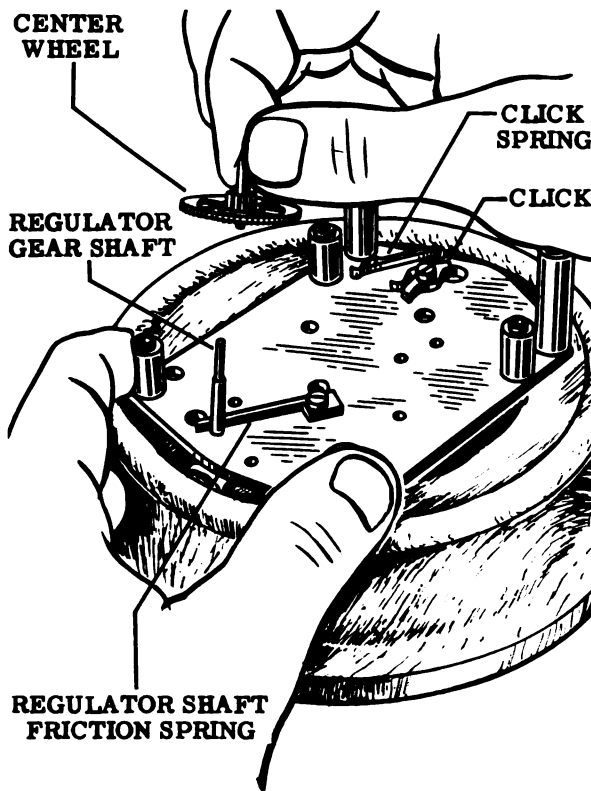

Figure 114
1. Place the front plate on the work block (Tool No. 1C) with the pillars facing up. Already mounted on the front plate should be the pillars, the click, the click spring, the regulator bracket and index wheel, the regulator spring and the regulator gear. Replace any of these parts that are missing. Refer to Fig. 114.